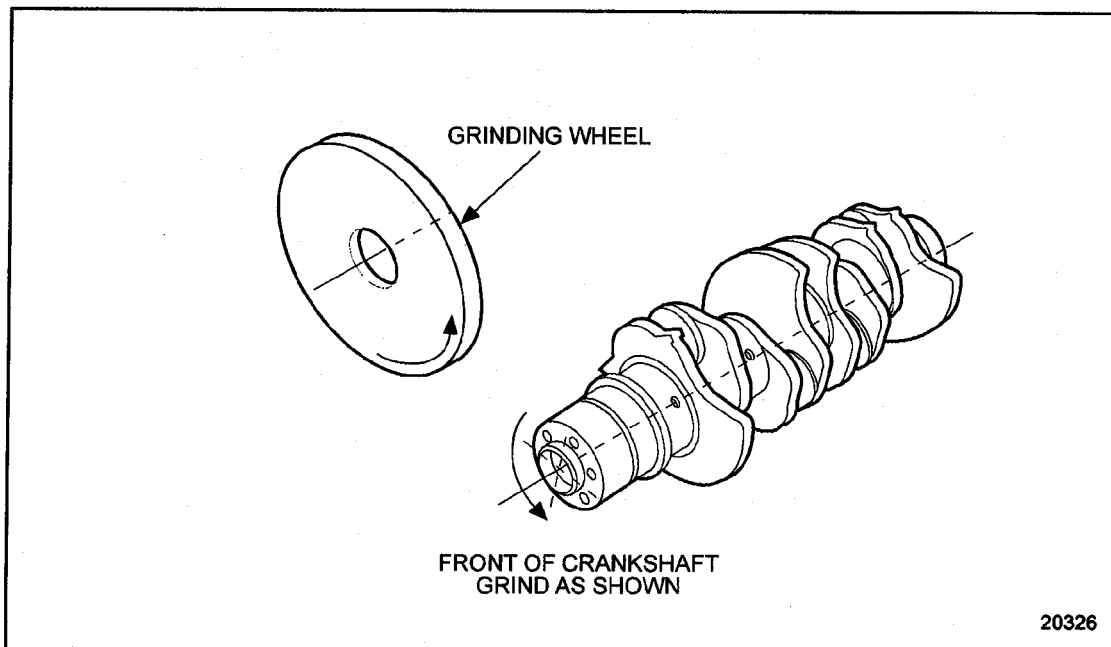

Figure 1-464 Crankshaft Grinding Rotation
1. Connecting rod and main bearing journal grinding should be performed with crankshaft rotation opposite to actual engine rotation. See Figure 1-464.